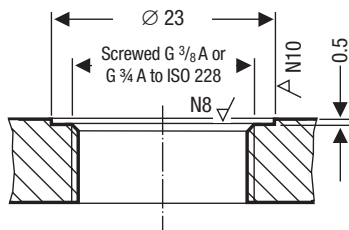

Fig. 3
- The seating surfaces of the standpipe or the flange provided on the vessel must be accurately machined, see **Fig. 3.**
4. Check seating surfaces. **Fig. 3**
5. Place supplied joint ring **②** onto seating surface of the threaded standpipe or flange. **Fig. 3**
6. Apply a light smear of heat resistant silicone grease (e.g. WINIX® 2150) to electrode thread **③**.